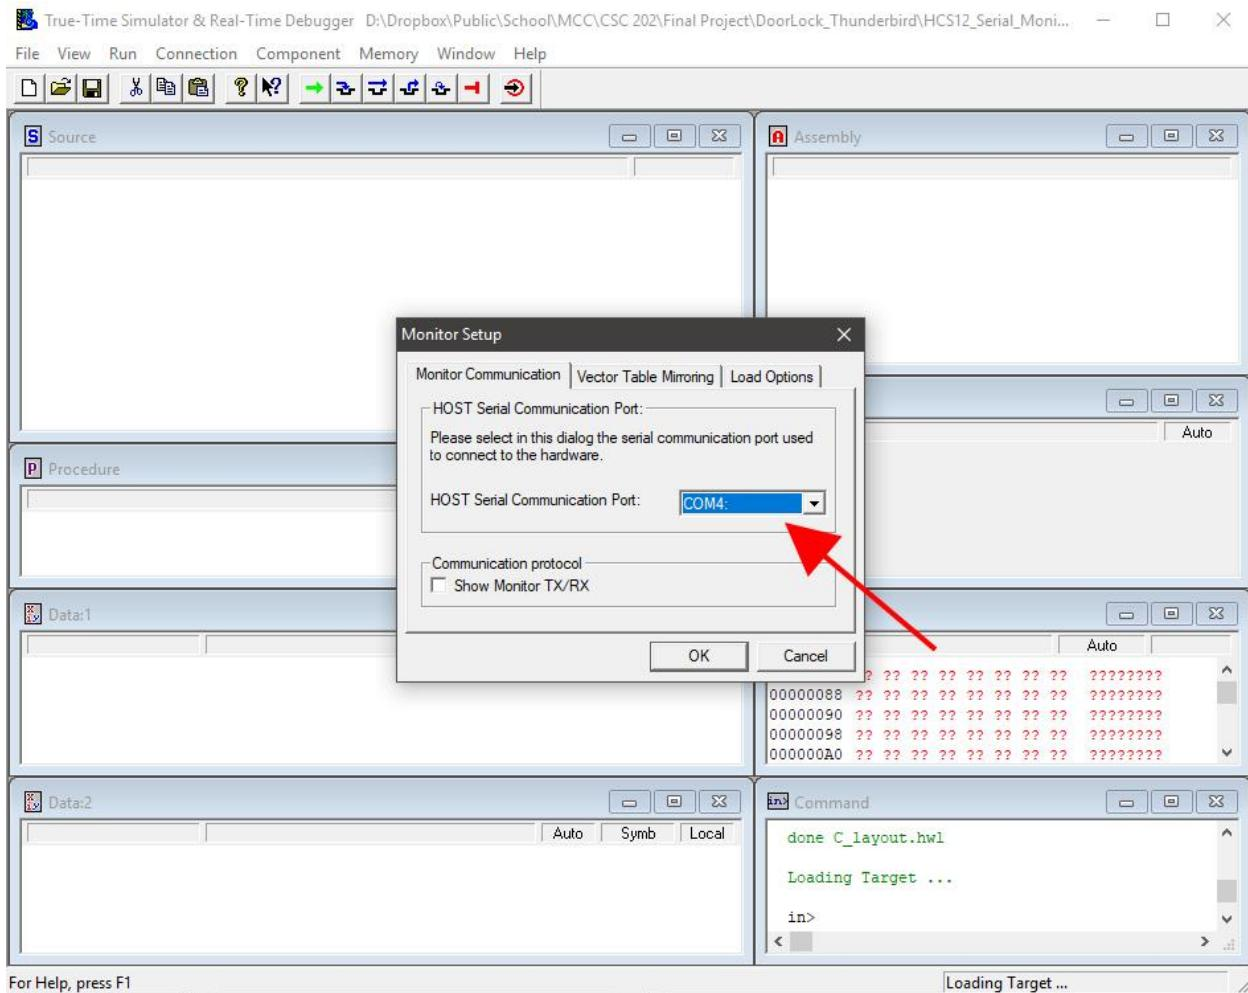

Figure 10-2 – Monitor Setup dialog pop-up in CodeWarrior
- b. Click on the dropdown menu next to “HOST Serial Communication Port:” and select the COM port number that was determined in step 1. Refer to Figure 10-2 for an illustrated example.